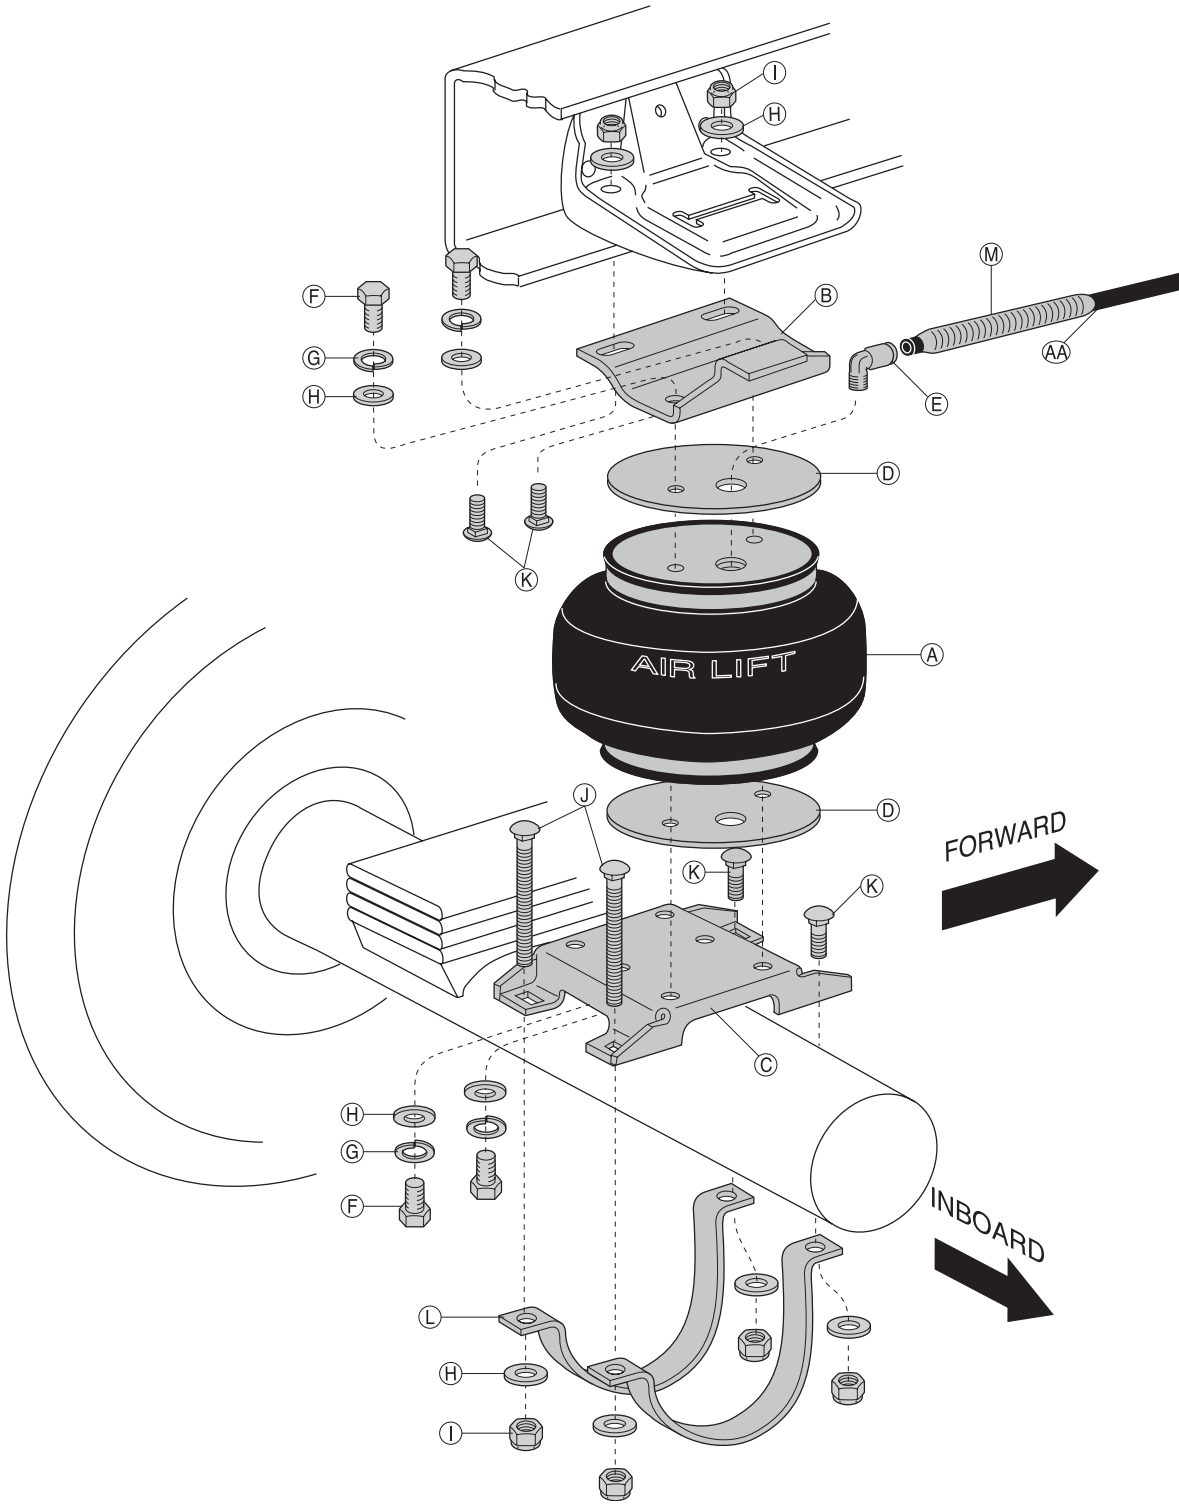

fig. 1
(\* not shown in Figure 1)
- Insert two short carriage bolts (K) into the upper bracket (Figure 1).
- Secure the upper bracket to the frame and jounce bumper bracket using a flat washer (H) and nylock nut (I) on each carriage bolt (Figure 1).
- Install two 3/8 " x 1.5" carriage bolts (K) in the two forward facing holes of the lower bracket (Figure 1).
- Install two 3/8 " x 3.5" carriage bolts (J) in the rearward facing holes of the lower bracket (Figure 1).
- Install the J-straps (L) with the long leg to the front of the vehicle. Loosely attach the straps using flat washers (H) and 3/8 " lock nuts (I). Refer to Figures 1 and 7.